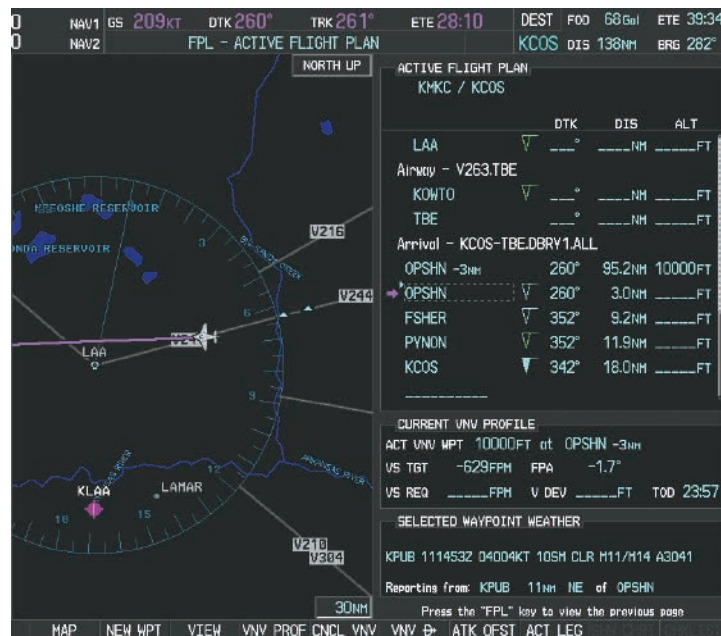

Figure 5-130 Direct-to Active
- h) Press the **ENT** Key twice to activate the direct-to. Note, in Figure 5-130, the magenta arrow indicating the direct-to OPSHN after the offset waypoint for OPSHN. The preceding offset waypoint indicates the offset distance and altitude that were previously entered. The remaining waypoints in the loaded arrival procedure have no database specified altitudes, therefore, dashes are displayed. Keep the CDI centered and maintain a track along the magenta line to OPSHN.